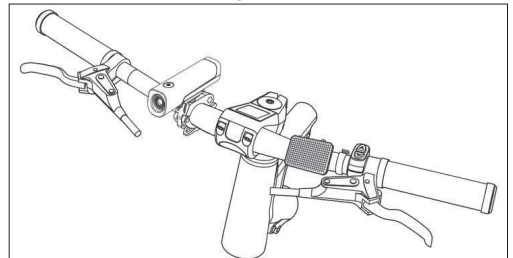

Figure 9-3
- Mount the front reflector and bell on the handlebar, as shown in **Figure 9-3**.